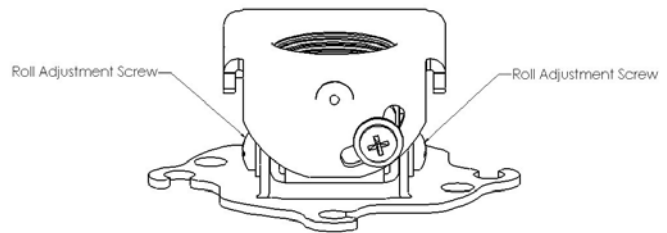

Figure 14. Roll Adjustment Screws
1. Loosen the 10-24X3/8" roll adjustment screws on each side of the adjustment plate (see Figure 14).